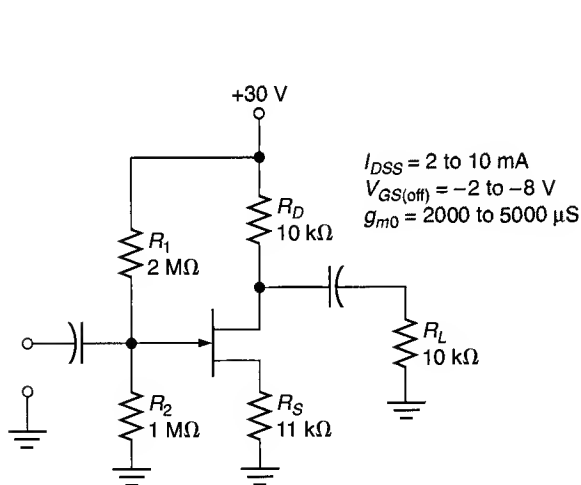

FIGURE 12.60
23. Determine the ranges of I_D and V_{DS} for the circuit shown in Figure 12.60.
31. Determine the range of A_v values for the circuit shown in Figure 12.60.
37. Determine the value of Z_{in} for the amplifier in Figure 12.60.